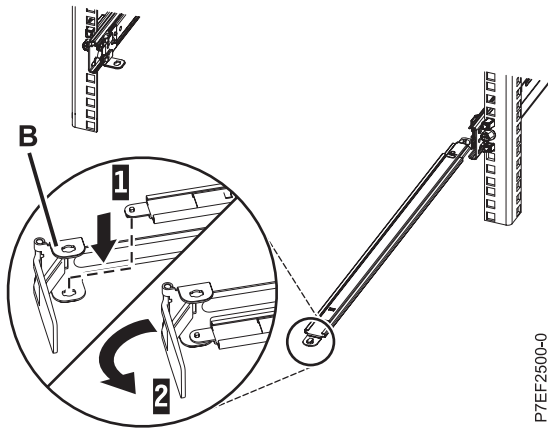

Figure 14. Securing the cable-management stop bracket to the support arm
2. Locate the hole at the bottom inside corner of the L-shaped cable-management stop bracket (B). Position the unattached end of the support arm so that the locking tab on the underside of its tip aligns with the bracket hole. Insert the tab into the hole (1) and turn the bracket (2) to secure it to the support arm, as shown in Figure 14 on page 12.